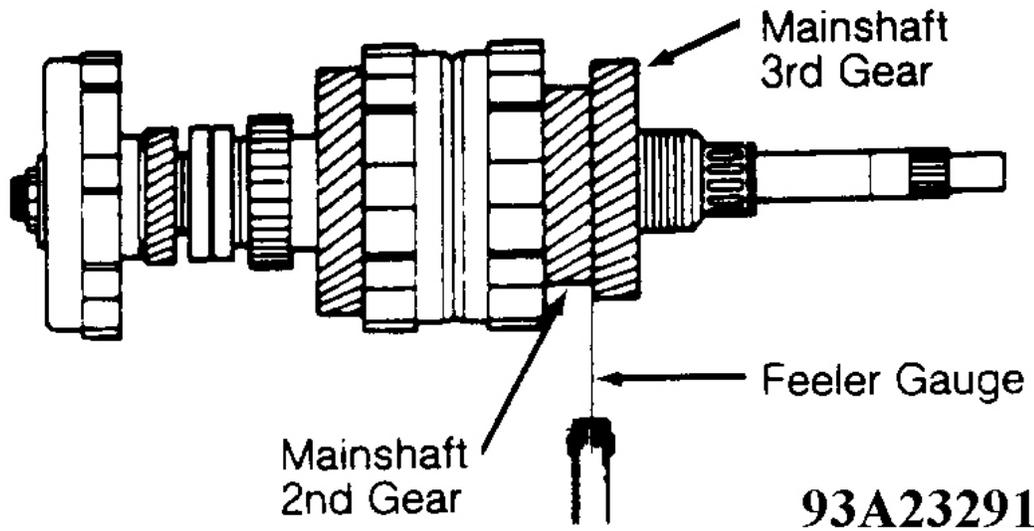

Fig. 17: Checking Mainshaft 2nd-3rd Gear Clearance
4. Using feeler gauge, measure clearance between mainshaft 2nd gear and mainshaft 3rd gear. See **Fig. 17** . Replace thrust washer located between mainshaft 2nd gear and 2nd clutch if mainshaft 2nd-3rd gear